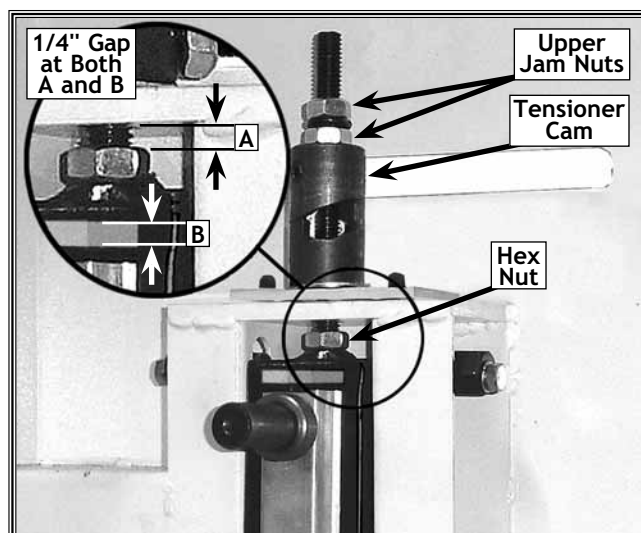

Figure 10. Tensioning mechanism shown without wheel for clarity.
- If the new blade is loose on the wheels, turn both upper jam nuts clockwise, so the upper wheel moves upward and you can slip the blade onto the wheels with a snug fit. Make sure that you have no less than $\frac{1}{4}$ " gap between both locations A and B as shown in **Figure 10**, or the tensioner may not operate correctly.
4. Tighten the upper jam nuts against one another, but not against the tensioner cam. The tensioner cam must be able to rotate or the hex nut will loosen. See **Figure 10**.